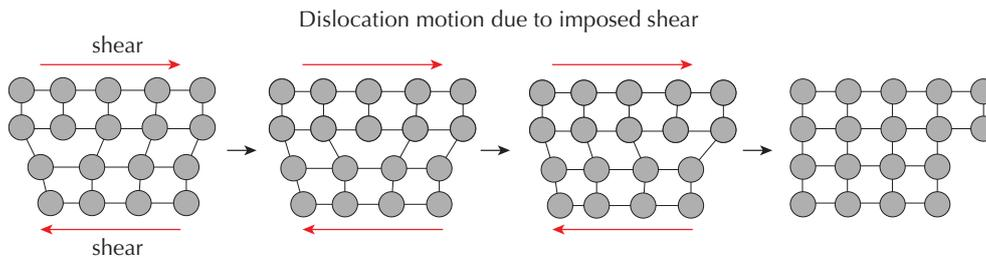

Figure 4: Dislocation propagation in the square lattice
- Identify dislocations - at a glance they may look like an ordinary point defect. You will identify them in two ways: a geometric way in a photo (like in figure 3), and a dynamical way (like in figure 4).
Can you confirm that the movement line corresponds to the direction of the Burgers vector, like in the figure 4?